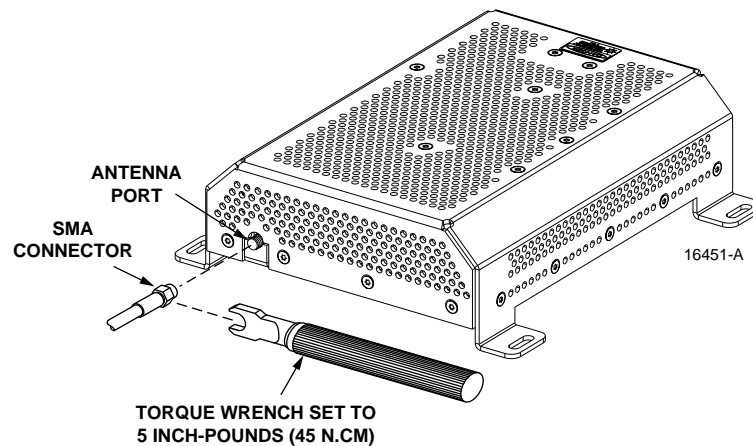

Figure 14. DRU Antenna Connection
2. Connect the antenna cable to the SMA connector on the DRU as shown in Figure 14 and using a torque wrench, tighten connector to 5 inch-pounds (45 N.cm).